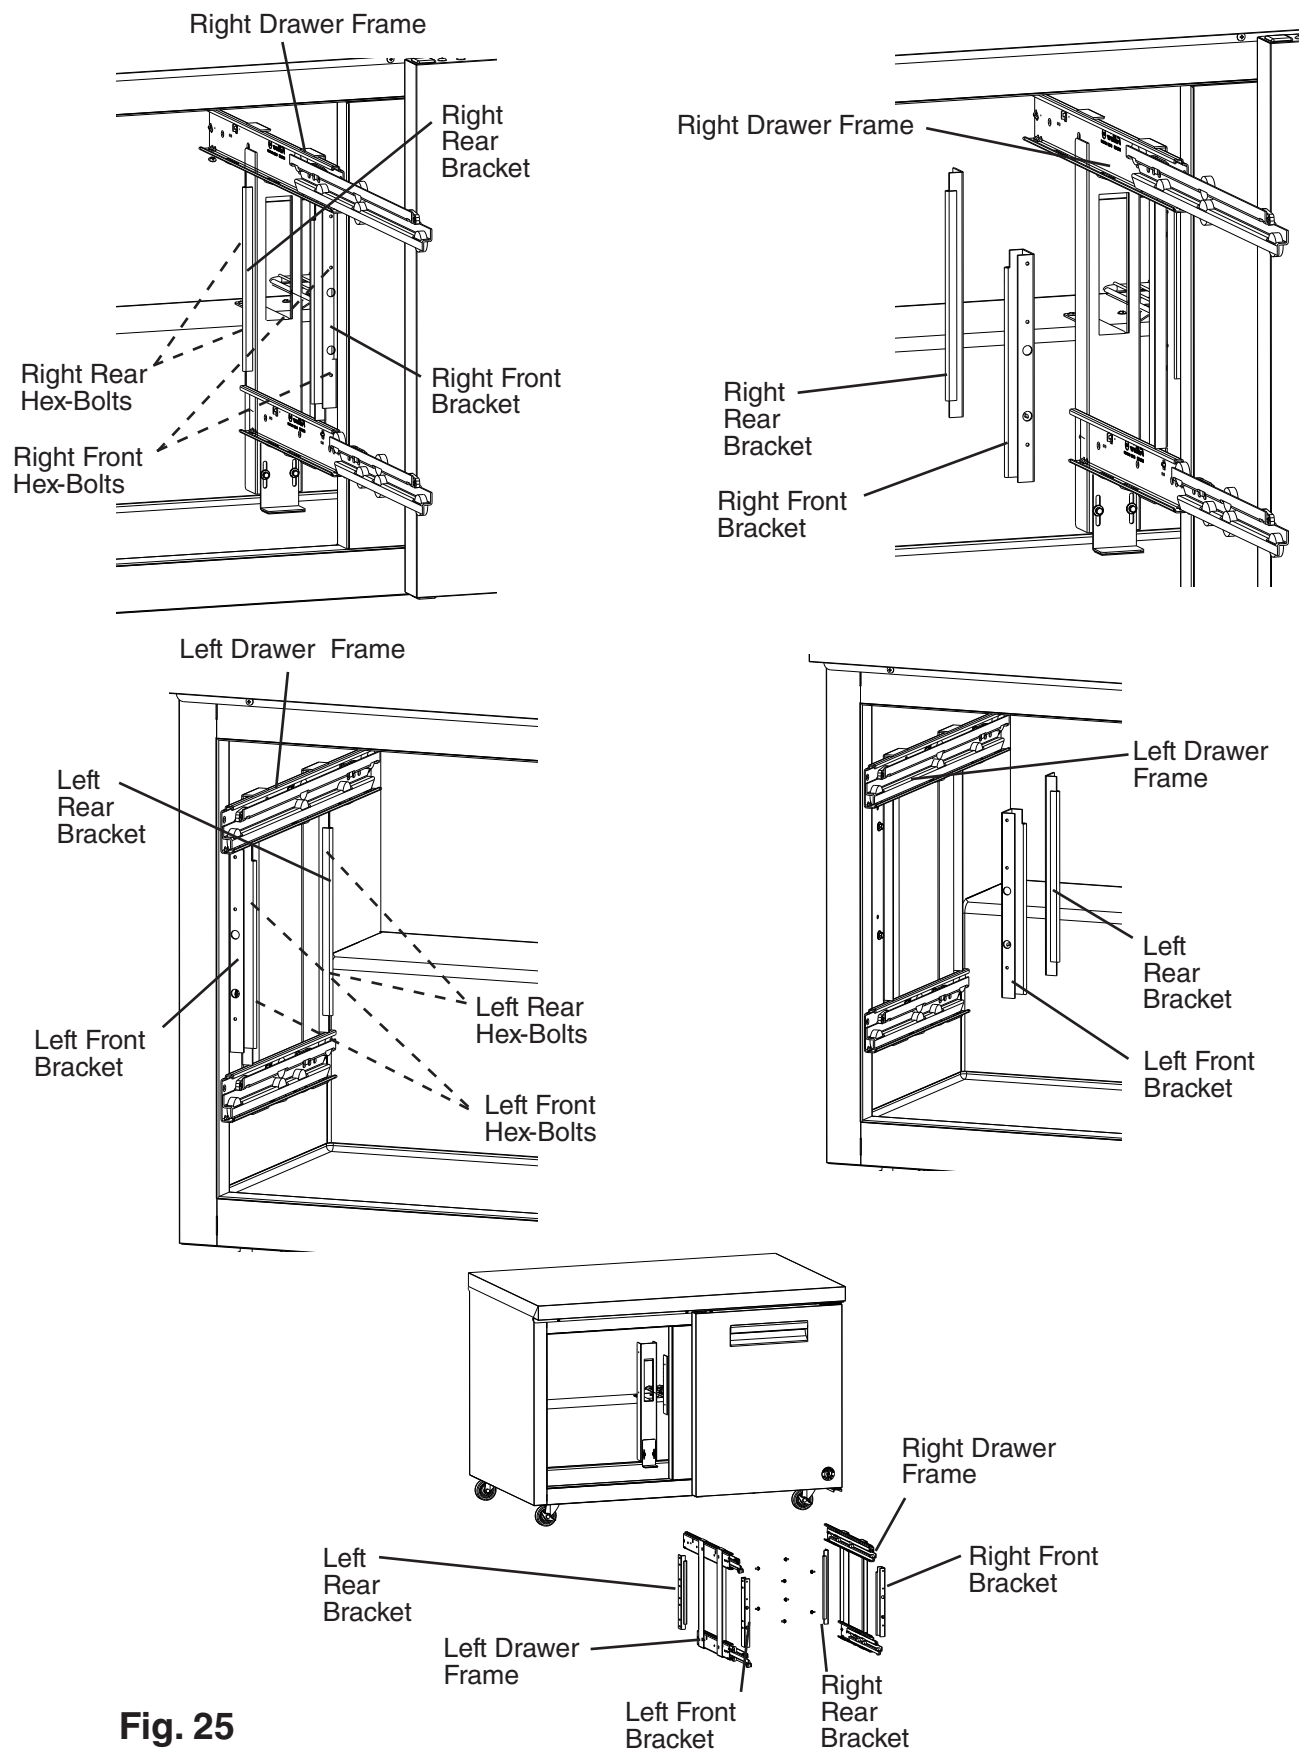

**Fig. 25**
- 4) Remove the hex-bolts from the 2 right (front and rear) and 2 left (front and rear) brackets (2 hex-bolts per bracket), then remove the right and left drawer frames. See Fig. 25.